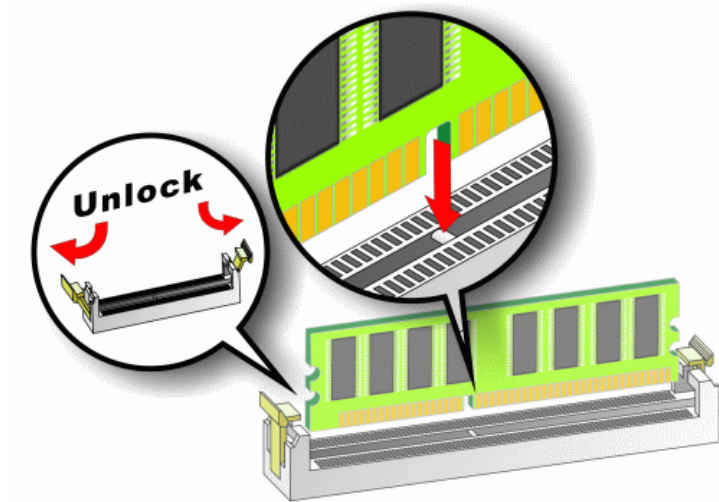

Figure 5-7: Installing a DIMM
To install a DIMM into a DIMM socket, please follow the steps below and refer to **Figure 5-7**.
- Step 1: Open the DIMM socket handles.** The DIMM socket has two handles that secure the DIMM into the socket. Before the DIMM can be inserted into the socket, the handles must be opened. See **Figure 5-7**.
- Step 2: Align the DIMM with the socket.** The DIMM must be oriented in such a way that the notch in the middle of the DIMM must be aligned with the plastic bridge in the socket. See **Figure 5-7**.
- Step 3: Insert the DIMM.** Once properly aligned, the DIMM can be inserted into the socket. As the DIMM is inserted, the white handles on the side of the socket will close automatically and secure the DIMM to the socket. See **Figure 5-7**.